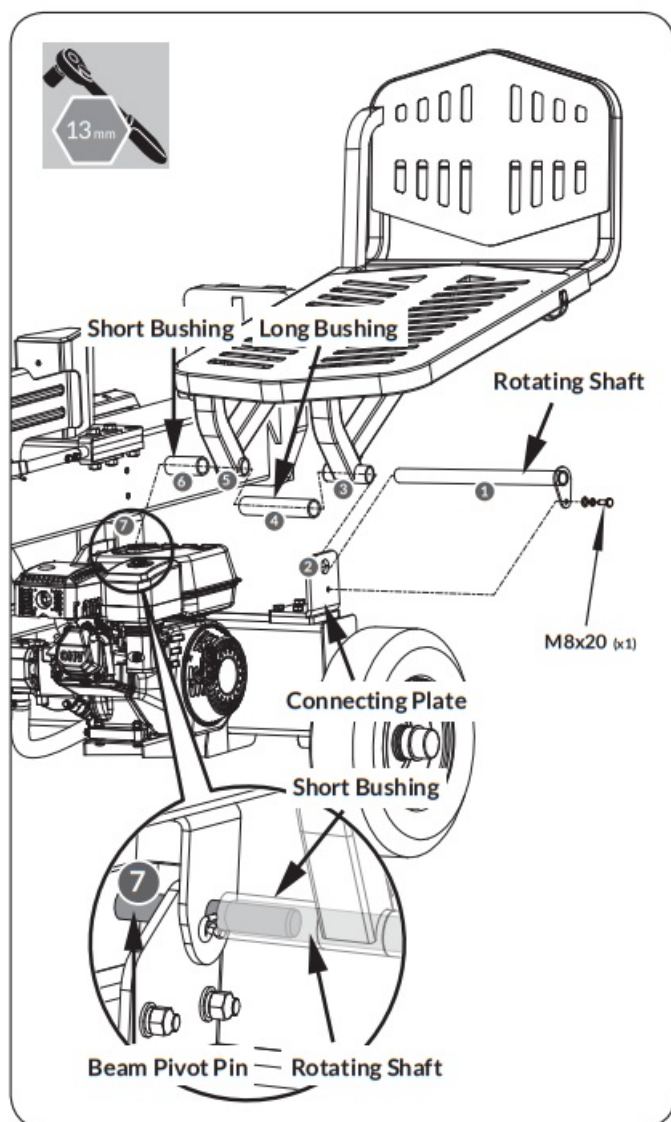

**Figure 7b**
2. Use a D type pin to insert the right connection hole between the main table and the side table. (See Figure 7b, illustration 2)
- table, and fix them with a D type pin. At the same time, align the rear hole of the left leg with the left hole at the bottom of the main table and then fasten with M10x60 long bolts, washers and nuts. (See Figure 7b, illustration 3)
4. Assemble the right support leg with the main table. Tighten with bolts, washers and nuts. (See Figure 7b, illustration 4)